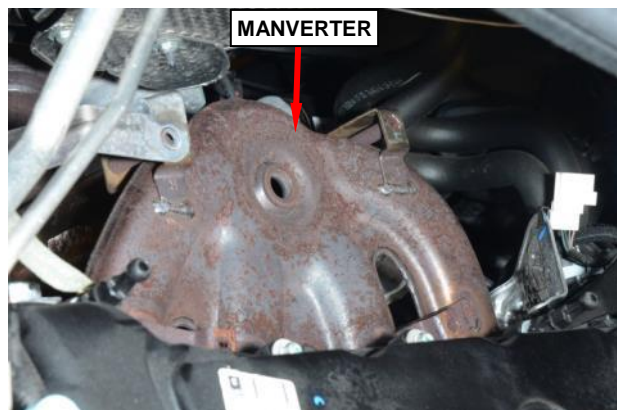

Figure 44 – Manverter
- d. Remove and discard the two nuts and five bolts fastening the manverter to the engine head (Figure 44).